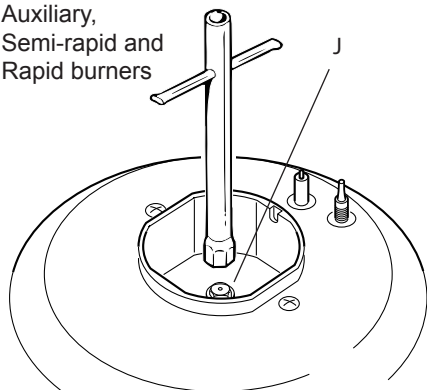

Fig. 10.5a
- Using a wrench, substitute the nozzle injectors "J" (figs. 10.5a, 10.5b) with those most suitable for the kind of gas for which it is to be used.